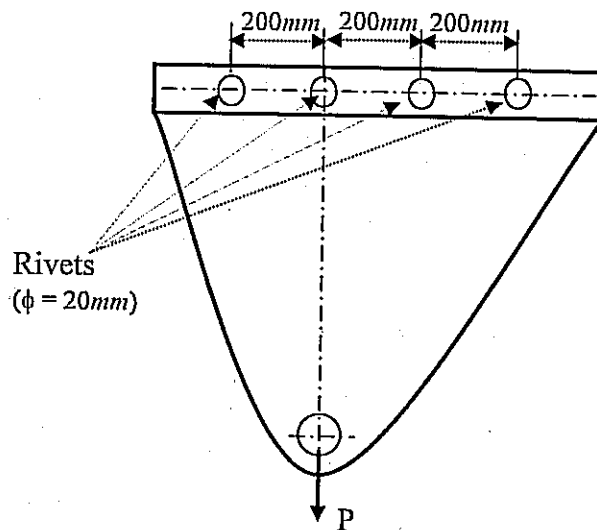

Fig.Q3
- (c) A bracket supporting a load P is attached to another metal frame by four similar rivets with a pitch of 200 mm as shown in Fig.Q3. Diameter of each rivet is 20 mm . Find the maximum value of P based on the working shear stress of 100 MPa for the rivets material.